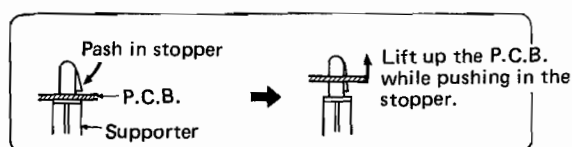

Fig. 4
4. Remove the stopper A (P.C.B. holder) of the FL printed circuit board. (Refer to Fig. 4)
3. Remove stopper A. (See **Fig. 4**.)